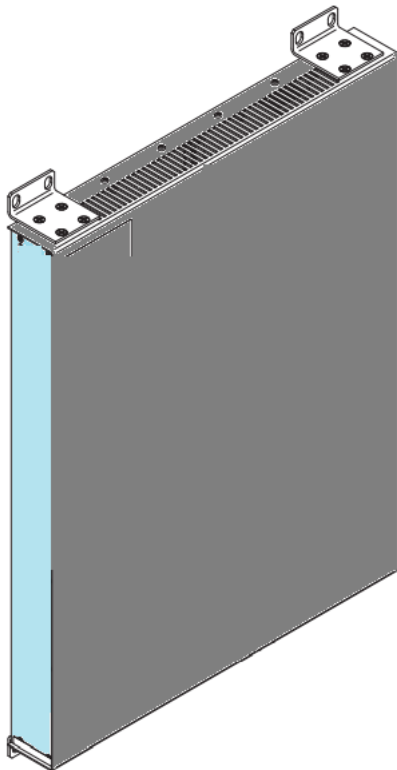

Figure 10: Installing the device on a vertical flat surface
- ☐ Install the 2 screws to attach the rack ears to the wall. See Figure 10.